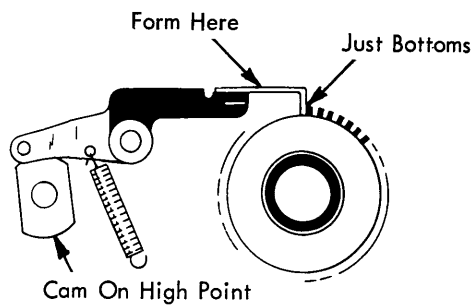

FIGURE 25b. Shift Interlock
- b. 721 Only - With the shift interlock on the high point of the cam, form the interlock so that the tip just bottoms between two teeth on the ratchet (Fig. 25b).